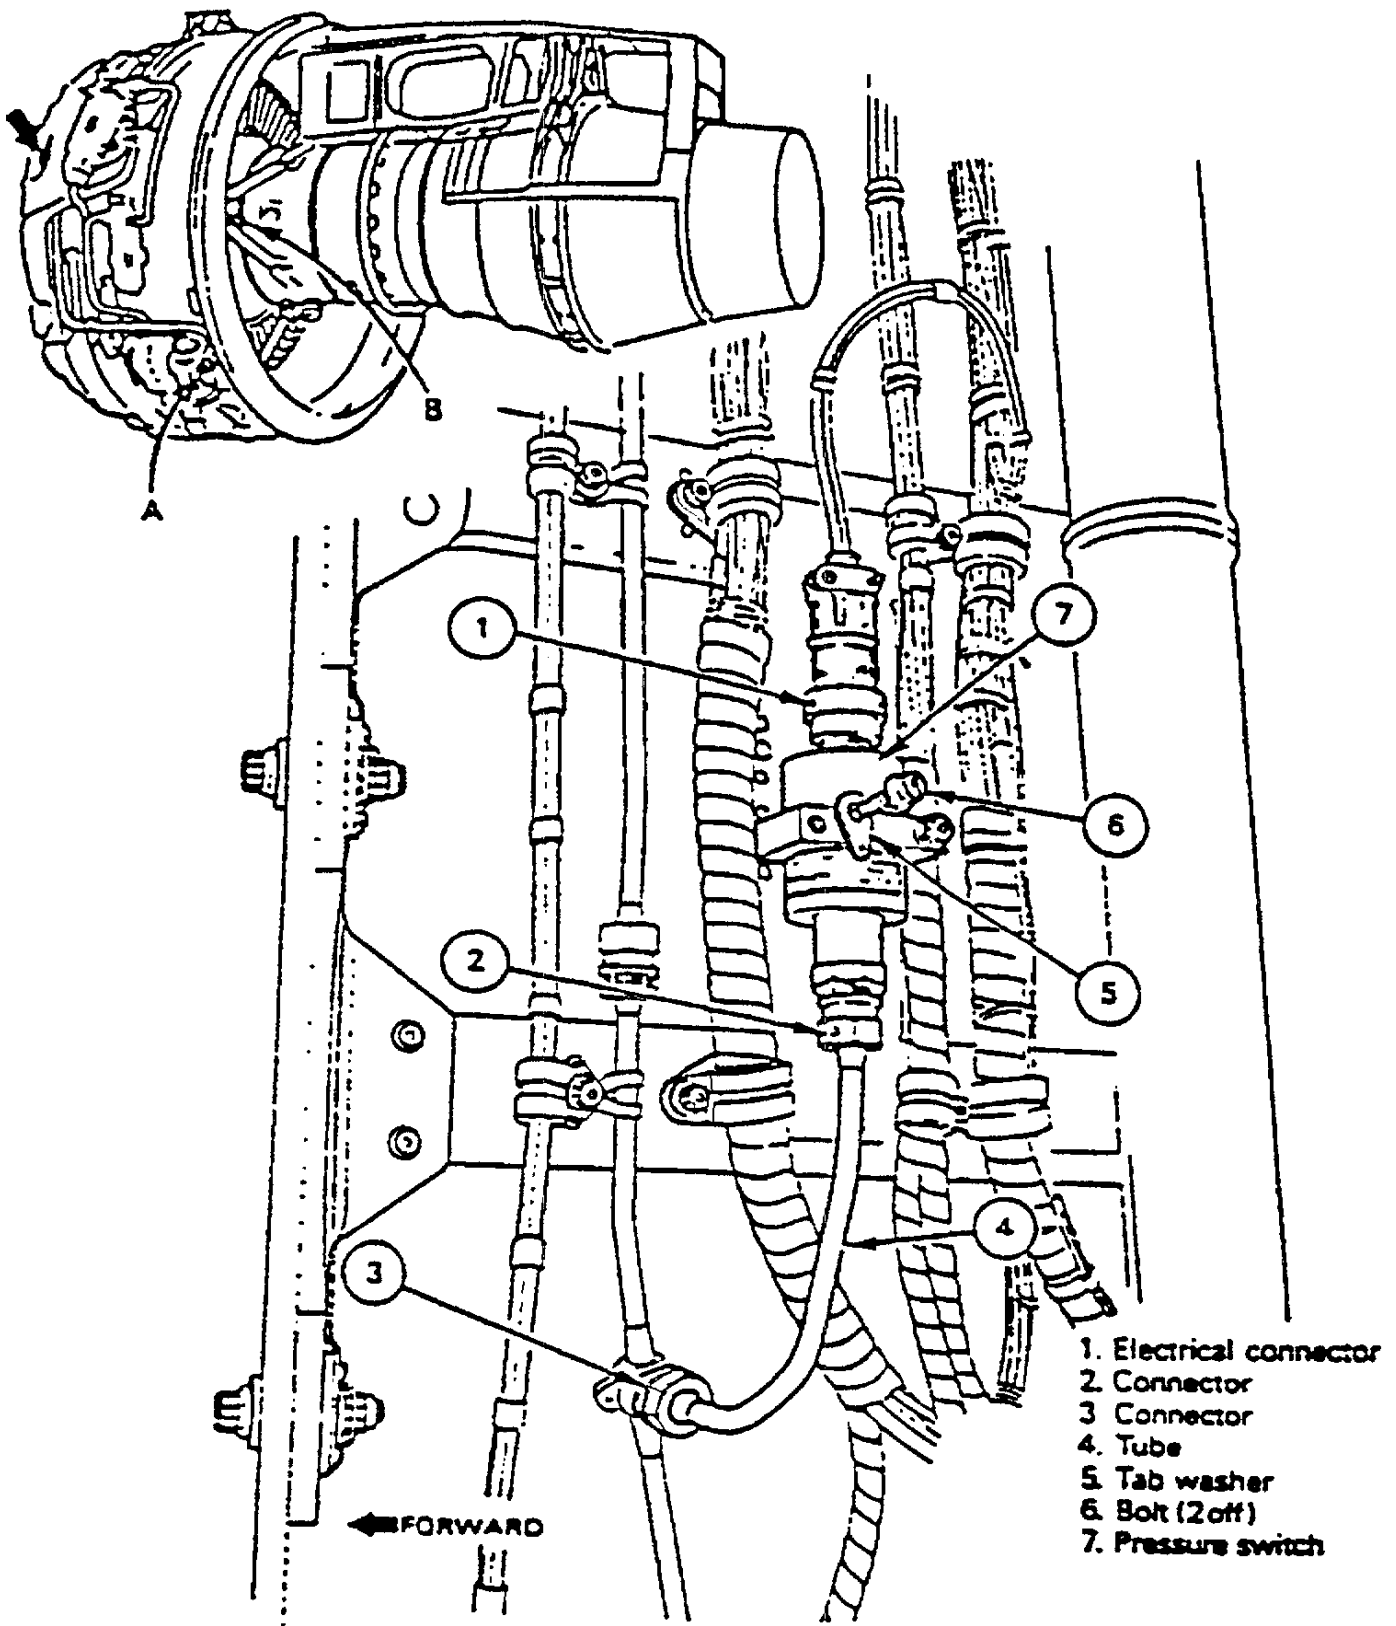

FIGURE 1
MM 73-21-23 FIGURE 1 543M7304
(SEE FIGURE 1)
VALVE SOLENOID, POSITIONED AT ARROW A, FIGURE 1.
CONNECTORS (3) AND (2), THEN WIRELOCK. (SEE FIGURE 1)